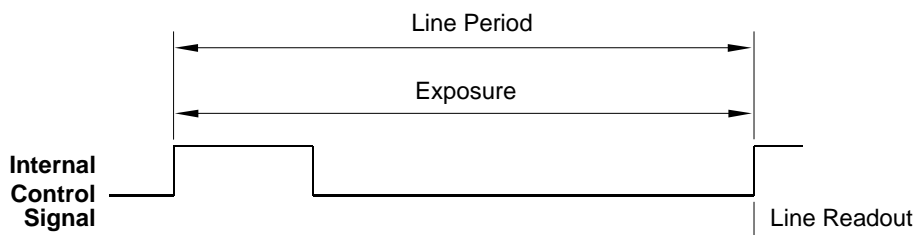

Fig. 30: Free Run, Edge Controlled Mode
- In **free run edge controlled** mode, line acquisition begins on the rising edge of the internal control signal. The pixels are exposed and charge is accumulated over the full line period (from rising edge to rising edge of the internal control signal). The falling edge of the control signal is irrelevant. The pixel values are read out of the sensor on the rising edge of the internal control signal as shown in Figure 30. The line period is determined by the setting for the line period parameter.